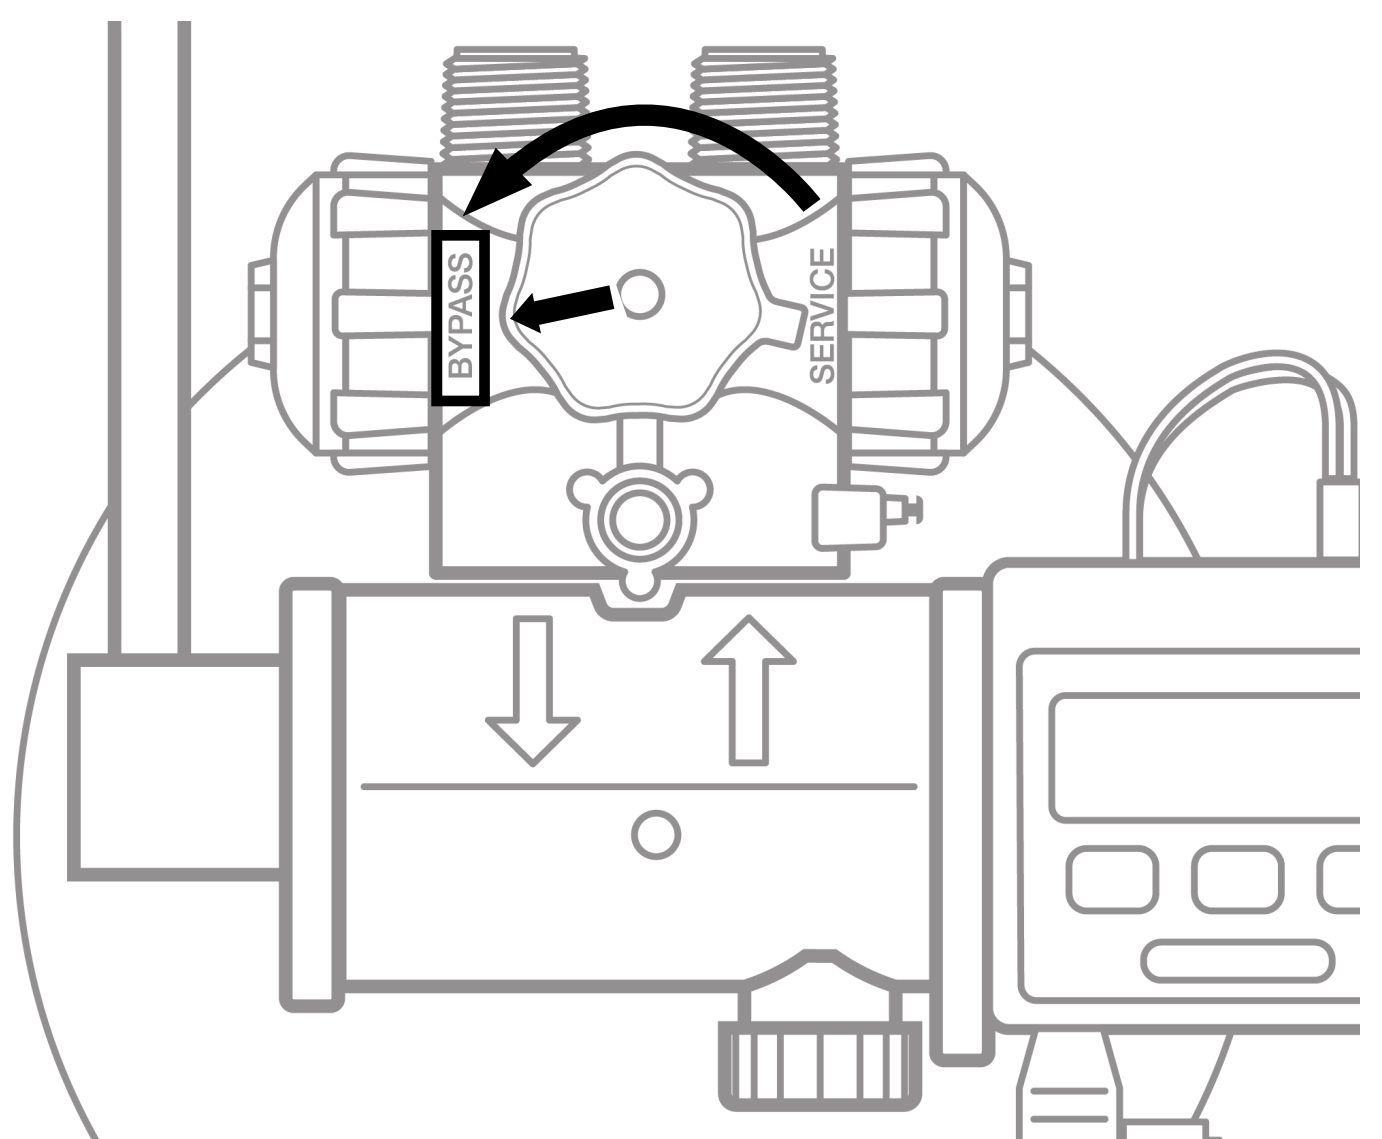

Figure 5: Bypass Position
- 1. Place the appliance in the Bypass position. (See Figure 5)